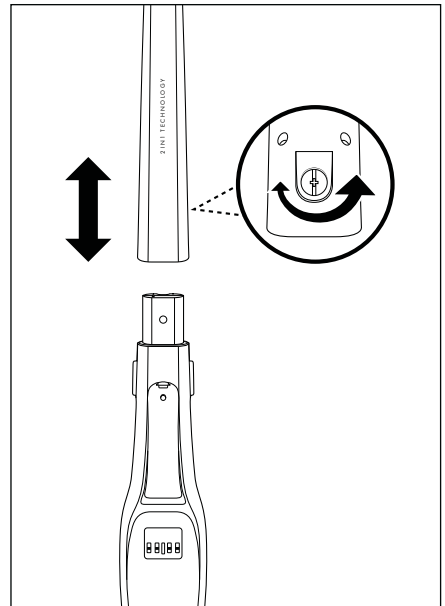

Fig. 1
- 1) Loosen the screw ① at the back of the handle rod ⑩ with a screwdriver in anticlockwise direction. Pull the screw ① out of the screw hole on the handle rod ⑩.
- 2) Attach the handle rod ⑩ to the handle rod bracket of the appliance. Push the handle rod ⑩ all the way onto the handle rod bracket until it is firmly seated on the appliance. (Fig. 1).
- 3) Insert the screw ① into the screw hole at the back of the handle rod ⑩. Tighten the screw ① clockwise with a screwdriver (Fig. 1).